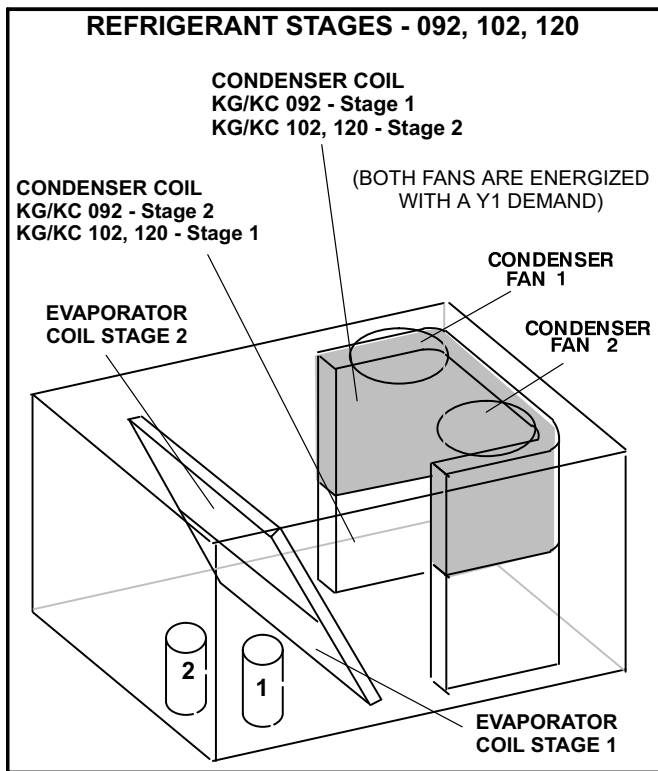

FIGURE 17
- 3- Units contain two refrigerant circuits or stages. See figure 17 or 18.